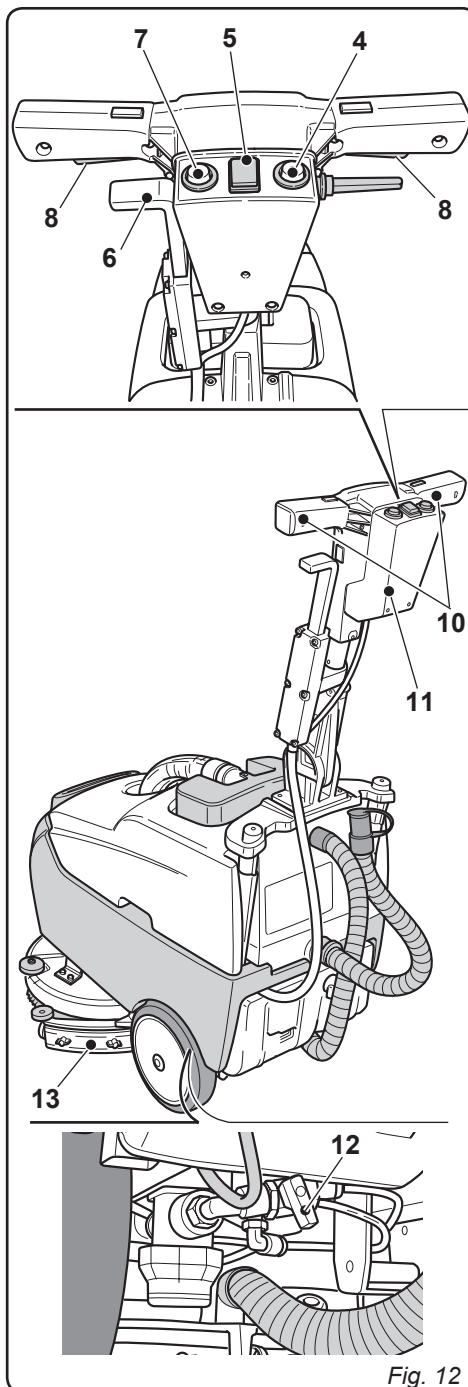

Fig. 12
9.1.e - Warnings while using the machine (Fig. 12/a)
- During the operation of the machine can be inserted alarms that are displayed by the flashes of leds (1):